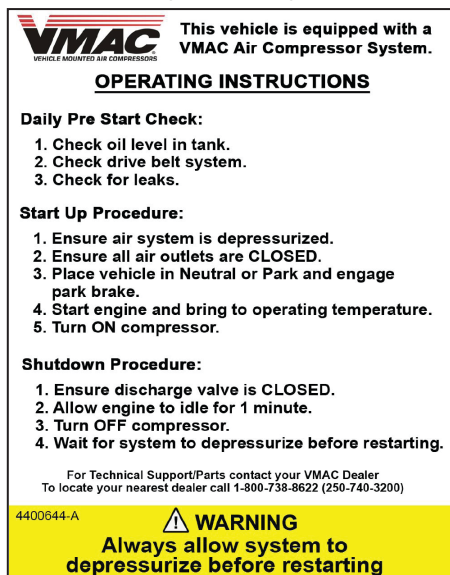

Figure 68 — Operating Instruction label
- As part of the installation process, ensure that the safety and operational instruction decal is affixed in an obvious location so that it can be seen by vehicle operators. A good spot for this is usually on the inside of the door or on the panel underneath the steering wheel (Figure 68).